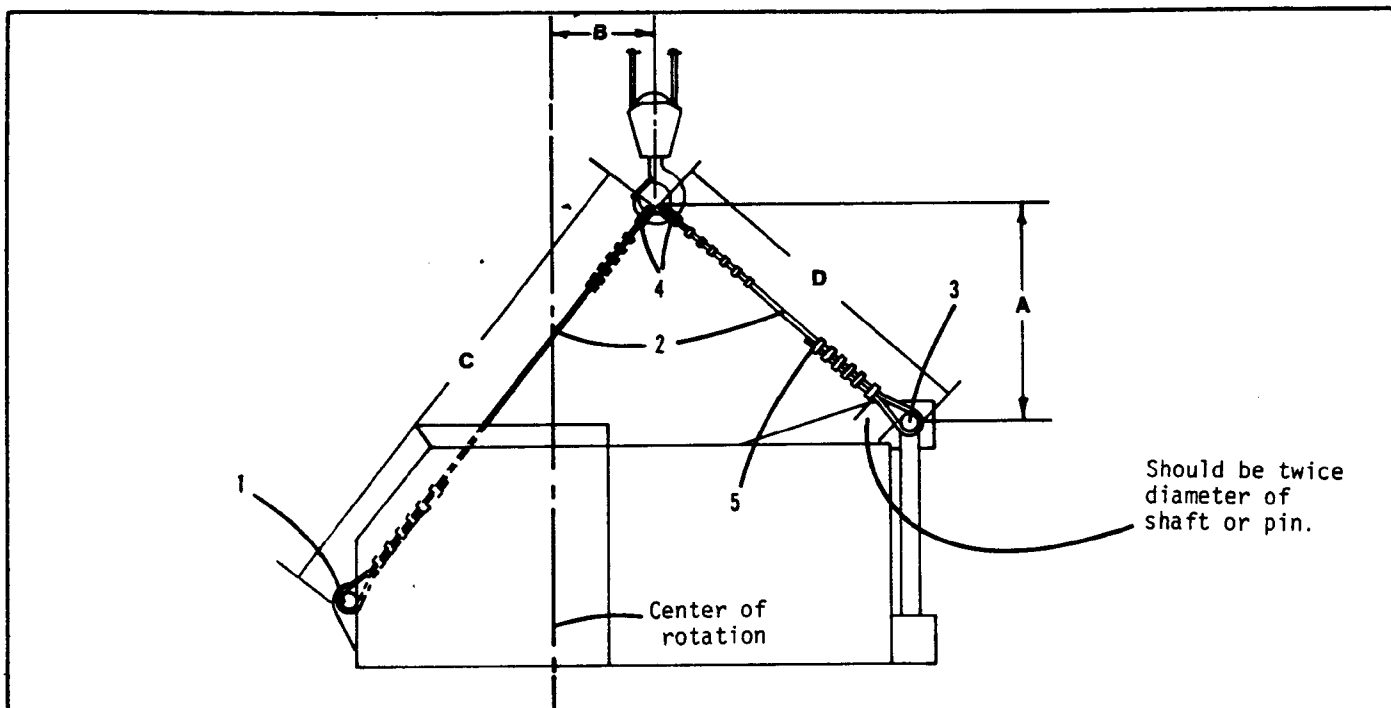

Fig. 2
- Attach slings to upper. (See Fig. 2). Connect one leg to each boom foot pin, and one leg to each end of the gantry headshaft. (Where the backstop tubes attach.) Install keeper pins or cotter pins in the boom foot pins to prevent their working out. Install a large washer or a plate with a flame cut hole in it over the gantry shaft to prevent sling slipping off. Install a cotter pin or capscrew and locknut in the hole at each end of shaft to retain the washer or plate.
Never use used, scrapped, or damaged rope for a sling as an accident may occur. Refer to Fig. 2 for more information. See Section 14 in Operator's Manual for information on wire rope clip installation.